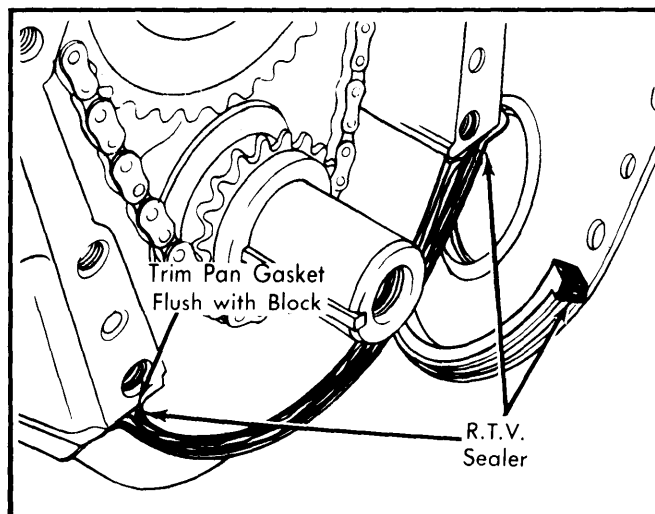
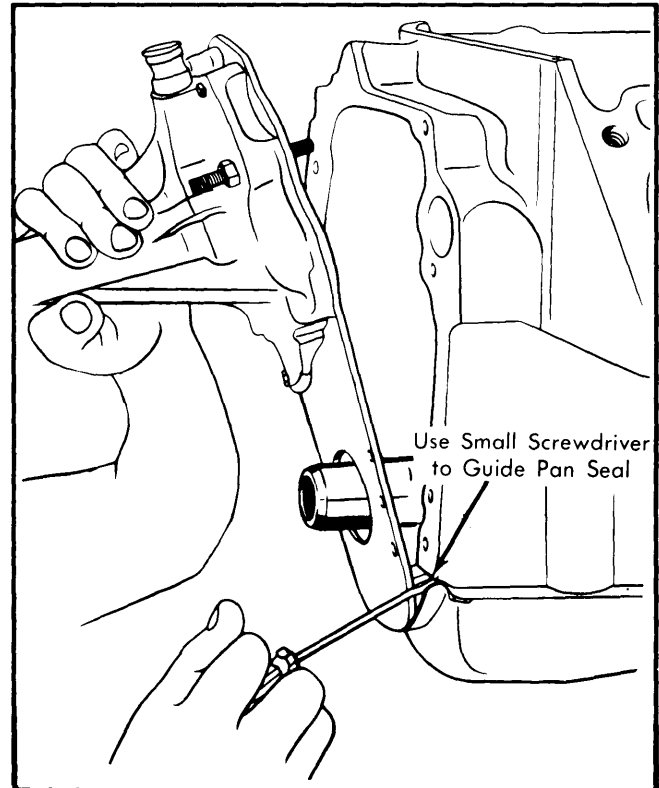

Fig. 9 Pan and Cover Seal Installation
Fig. 10 Front Cover Installation
2) Apply suitable sealer at junction of block, pan and front cover. See Fig. 9. Install front cover, pressing downward to compress seal. Rotate cover left and right to guide pan seal into cavity using a small screwdriver. See Fig. 10. Install 2 bolts and tighten finger tight, install dowel pins (chamfered end first), timing indicator and water pump and tighten bolts to specifications. Lube timing cover seal and install harmonic balancer. Reverse removal procedure to complete installation.